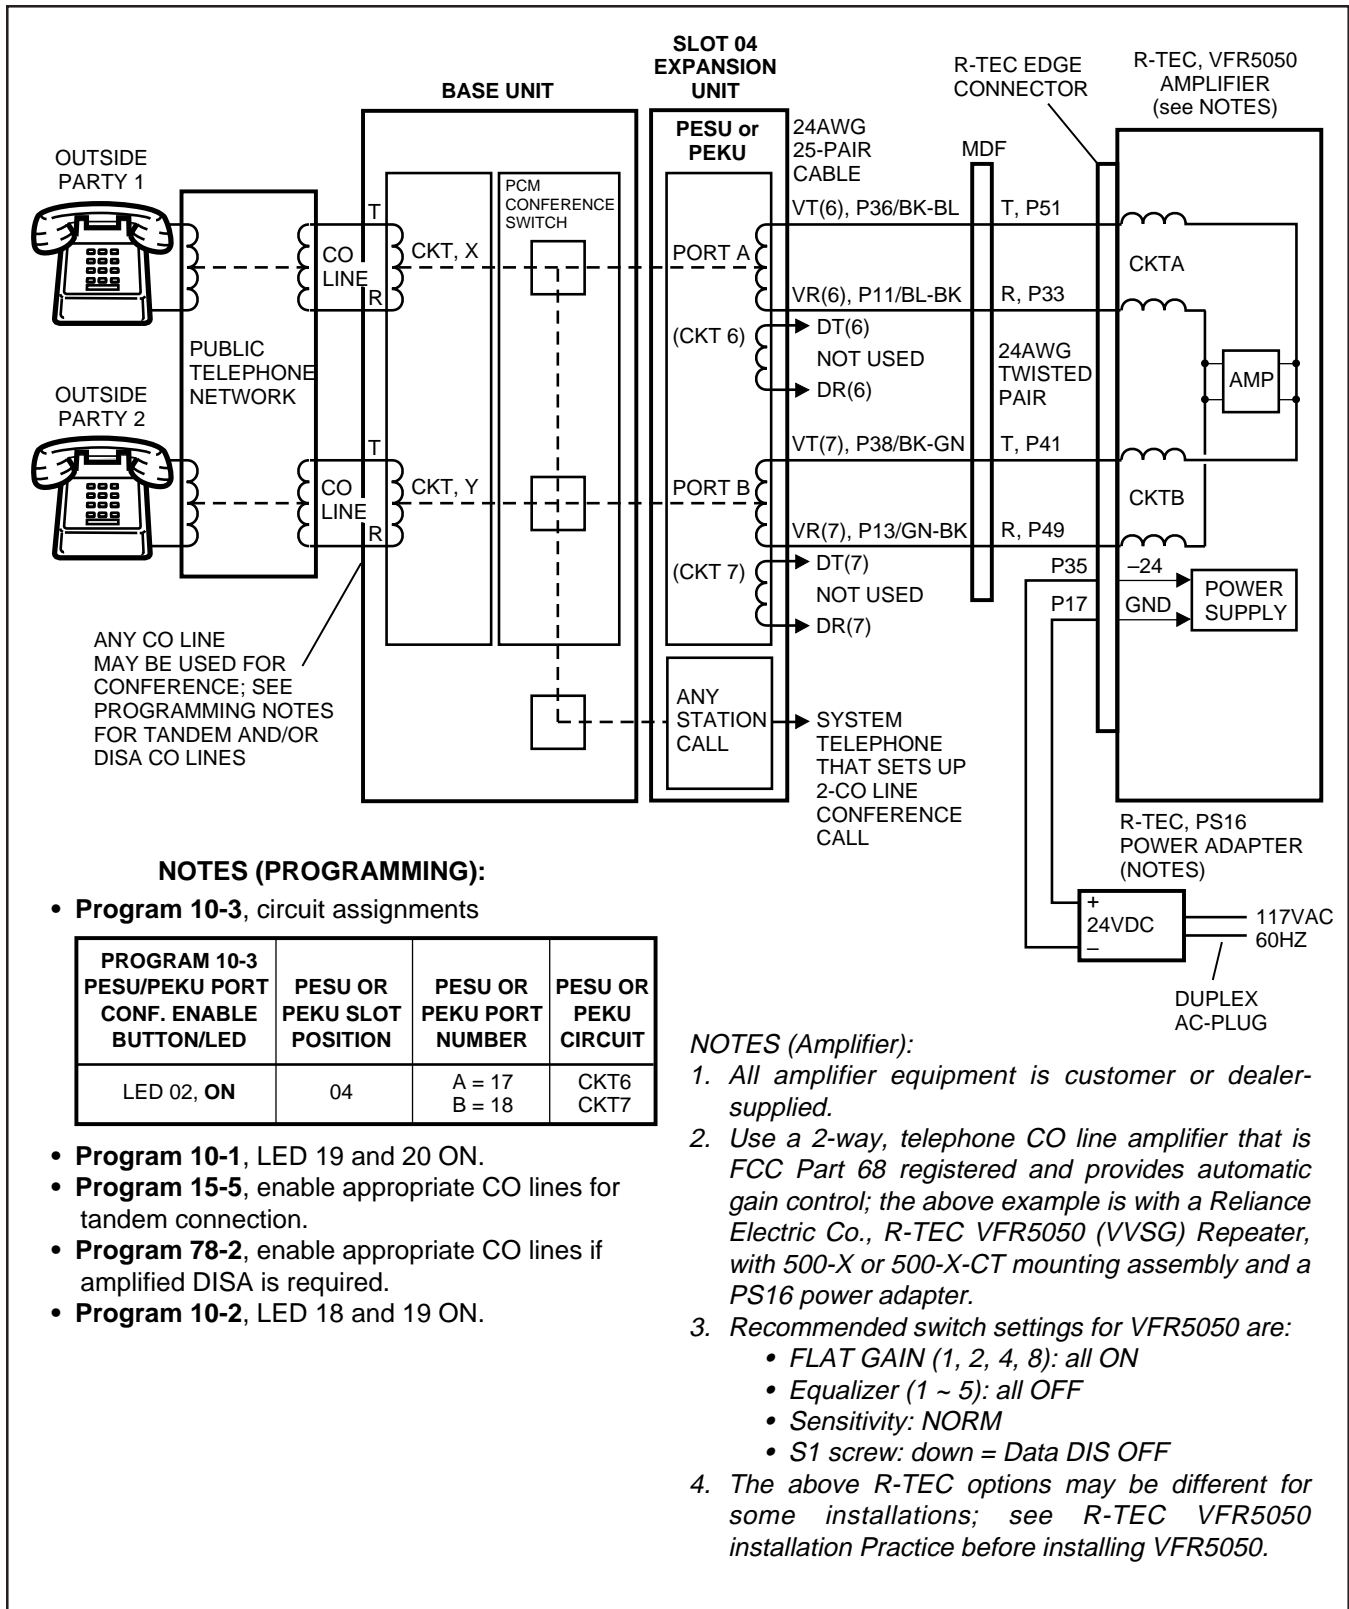

FIGURE 7-39
11.02 Amplified Talk Path. Figure 7-39 provides a functional diagram of a two-CO line amplified conference connection (an R-TEC VFR5050 amplifier is used here). The talk path for the connection is as follows: outside party 1—public telephone network—CO, CKTX—STRATA DK16—PEKU, port A—into AMP, CKTA—Out AMP, CKT B—PEKU, port B—STRATA DK16—CO, CKTY—public telephone network—outside party 2. This path is two-way so when outside party 2 talks, the talk level is amplified in the reverse direction.
following steps (see Figures 7-39 and 8-27).
- 1) At the main distribution frame (MDF), connect the voice pair (VT, VR, port A) of circuit 6 on the designated PEKU or PESU PCB to one input of the customer-supplied two-way amplifier. In the example in Figure 7-39, this is CKTA (Central Office Side A) of the VFR5050.
- 2) At the MDF, connect the voice pair (VT, VR, port B) of circuit 7 on the designated PESU or PEKU PCB to the other input of the amplifier. In the Figure 7-39 example, this is CKTB (subscriber side B) of VFR5050.